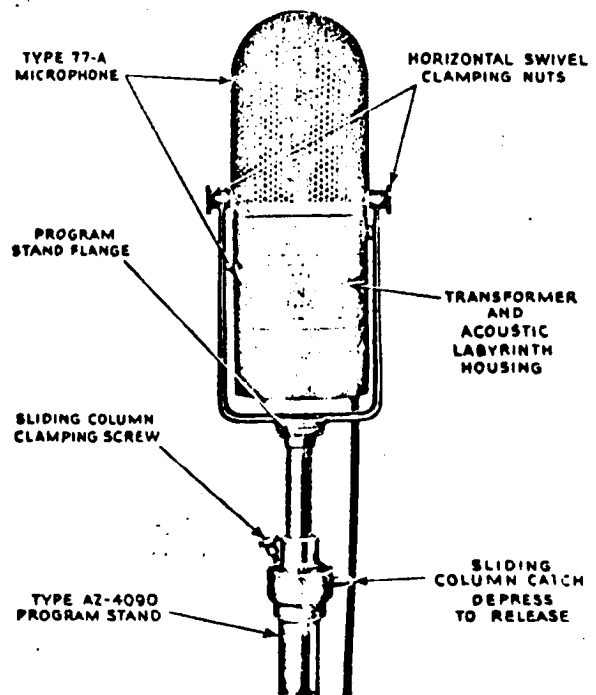

Figure 1—Close-up of Microphone on Program Stand
2. Description.—The uni-directional microphone shown in Figure 1 consists of a microphone unit mounted in a horizontal swivel on the top of a program stand. "Aiming" is accomplished partially by means of this swivel and partially by rotating the vertical column of the program stand. The transmitter is enclosed within a circular, perforated metal casing, so designed as to conform to the circular construction of the labyrinth, which occupies the lower part of the unit.